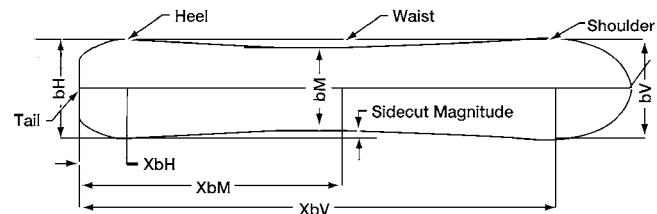

FIG. 4 Top View of a Symmetrical Snowboard
**contact surface area**—the product of the average width times the contact length expressed quantitatively as follows (Fig. 4):